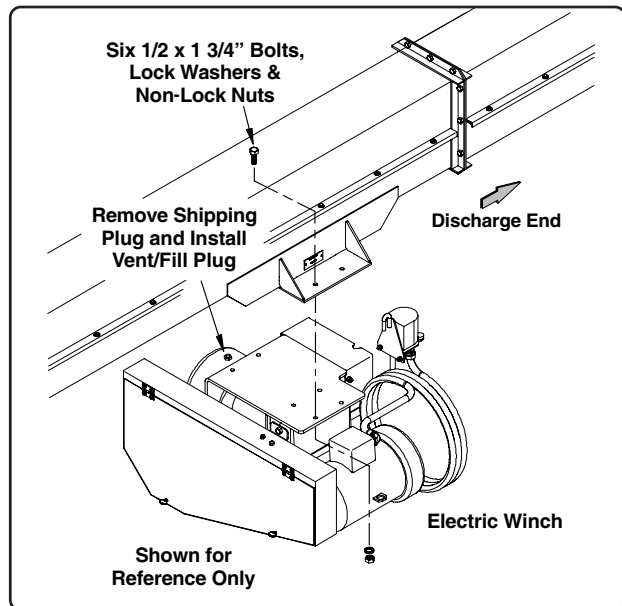

Fig. 36
IMPORTANT! The winch has been shipped with oil already installed. Before conveyor operation you must remove the plug from the top of the gearbox and install the vent/fill plug (See Fig. 36).
1. Position the winch below the winch mount plate and secure to mount using six (6) 1/2" x 1 3/4" bolts, lock washers and non-lock nuts (See Fig. 36).